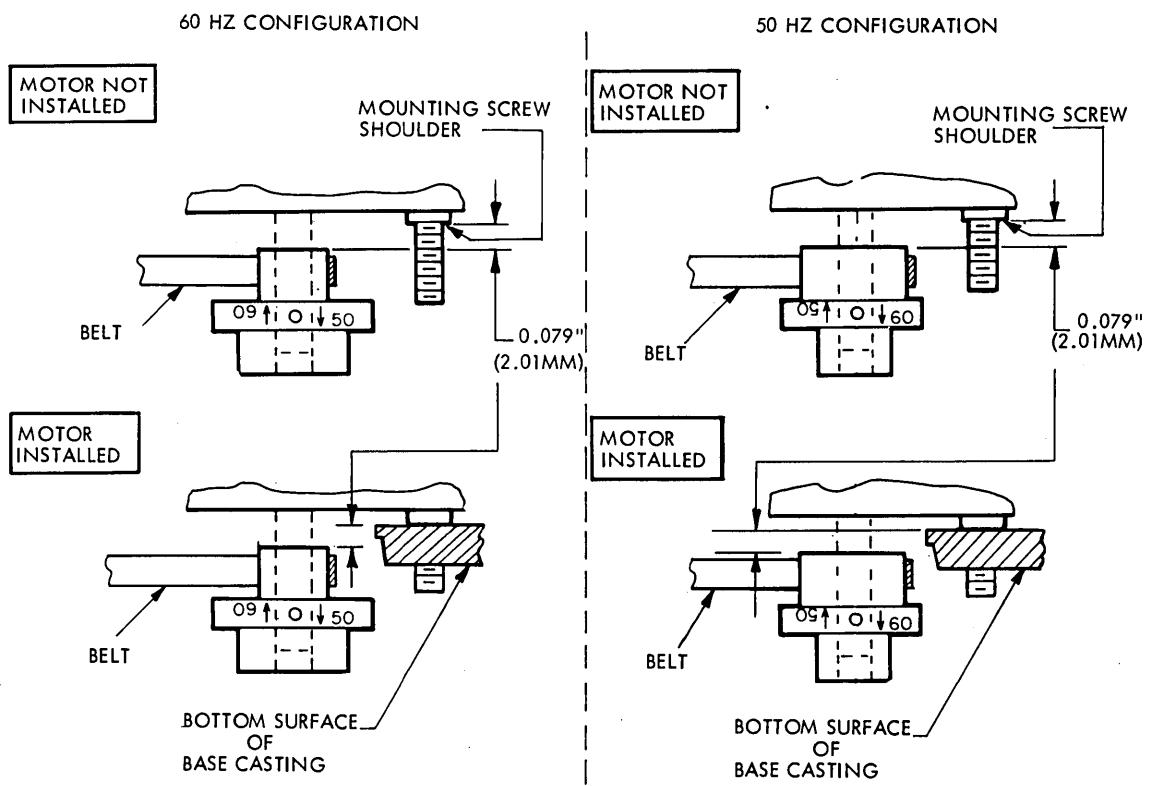

Figure 6-15. Drive Pulley Reversal
- f. Position pulley allowing $0.079"$ (2.01 mm) $\pm 0.010"$ (0.254 mm) between shoulder of motor mounting screws and pulley (Figure 6-15).